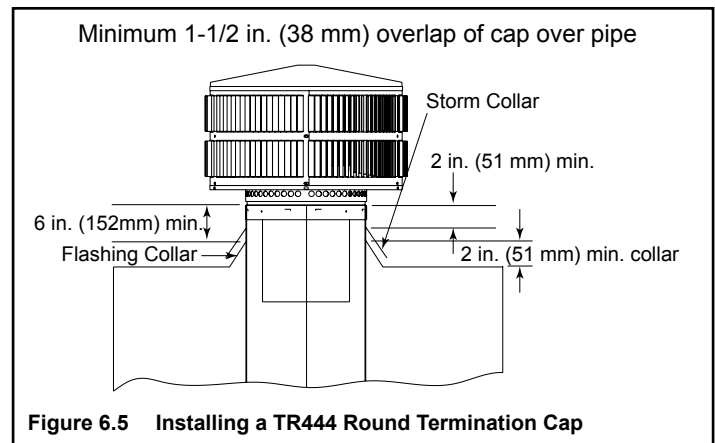

Figure 6.5 Installing a TR444 Round Termination Cap
- Install the chimney sections up through the chase enclosure. When using a TR444 Round Termination Cap, the uppermost top section of pipe must extend 6 in. (152 mm) above the top of the flashing collar to allow installation of the storm collar and termination cap. See Figure 6.5.